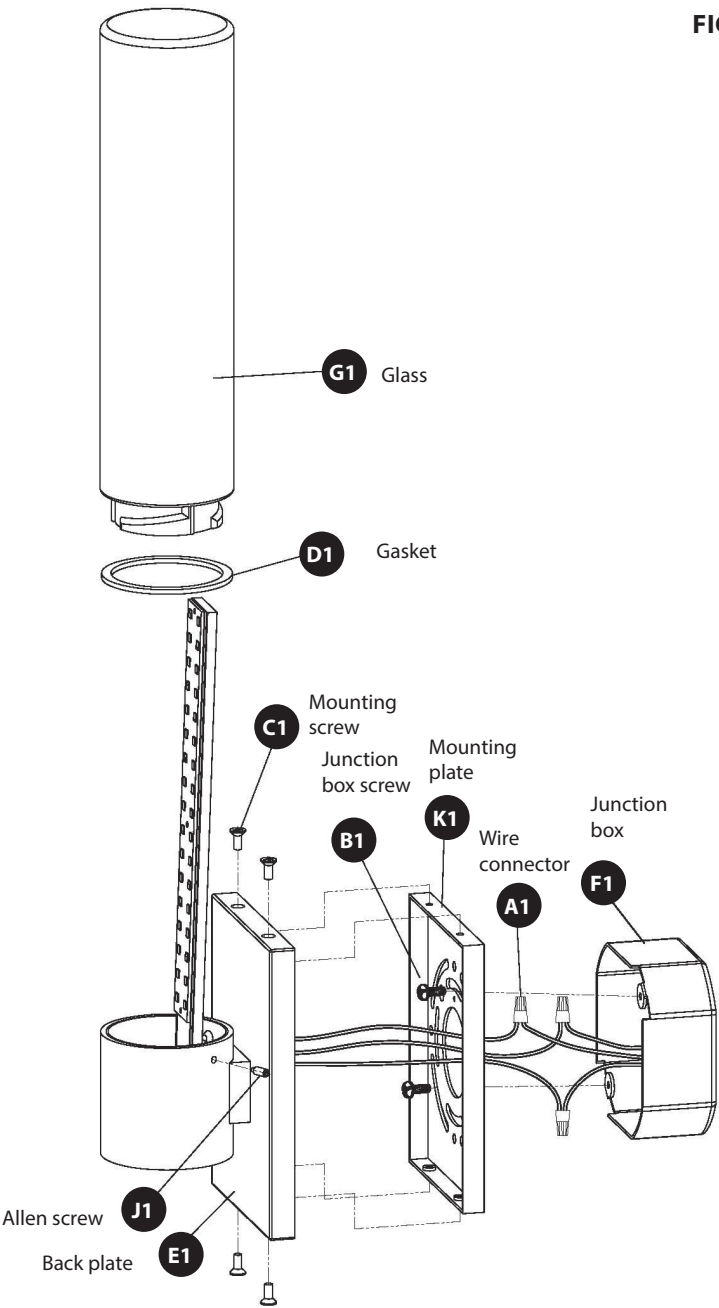

Fig.2 Wiring
- 5. Connect the fixture wires to junction box wires as shown in Fig. 2, making sure that all wire connectors (A1) are secured. Fixture and junction box ground wires should be connected to mounting plate using green screw provided. After wires are connected, tuck them carefully inside the junction box.